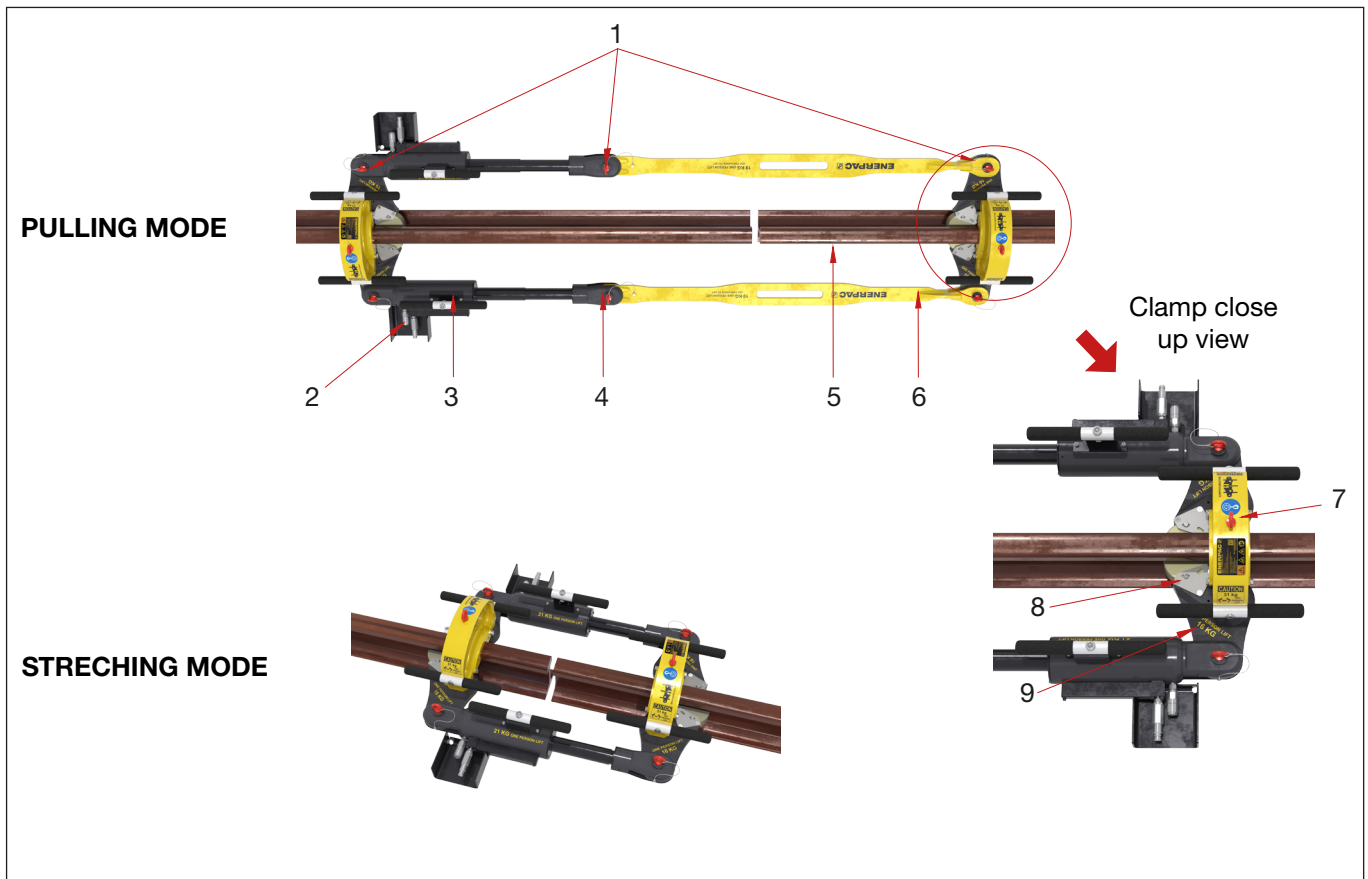

Figure 2: Major Features and Components of RP70A
The rail grips (Figure 2, item 8) are mounted on swing arms (Figure 2, item 9), which are attached to the clamps in a flexible way.
The positioning plates are part of the clamps (Figure 2, item 7) and they are used to put the clamp correctly on the rail.